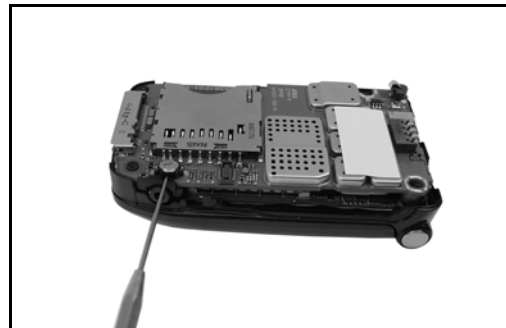

Figure 7-10.
3. Approach slot in Coin Cell holder from Audio Jack side with point of sharp pick (see Figure 7-10).